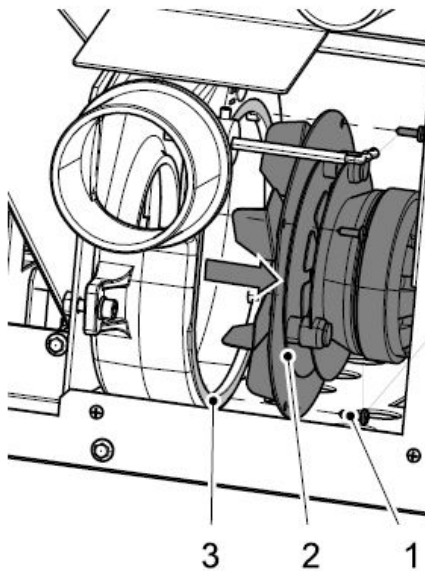

Figure 9: Induced draught fan
- This housing is made accessible for cleaning by undoing the 4 nuts shown in Figure 9. (See arrows).